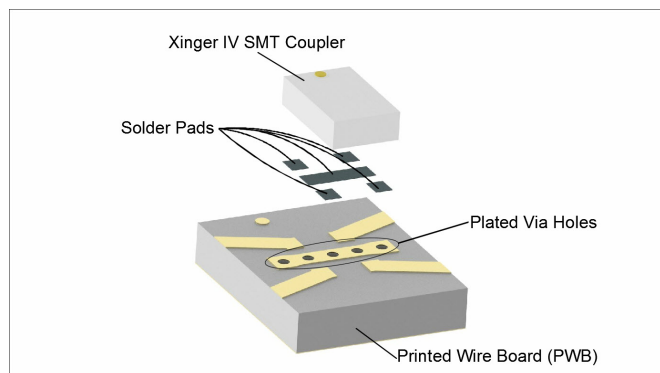

**Figure 3: Solder Paste Application**
**Solder Paste:** All conventional solder paste formulations will work well with Anaren’s Xinger surface mount components. Solder paste can be applied with stencils or syringe dispensers. An example of a stenciled solder paste deposit is shown in Figure 3. As shown in the figure solder paste is applied to the four RF pads and the entire ground plane underneath the body of the part.